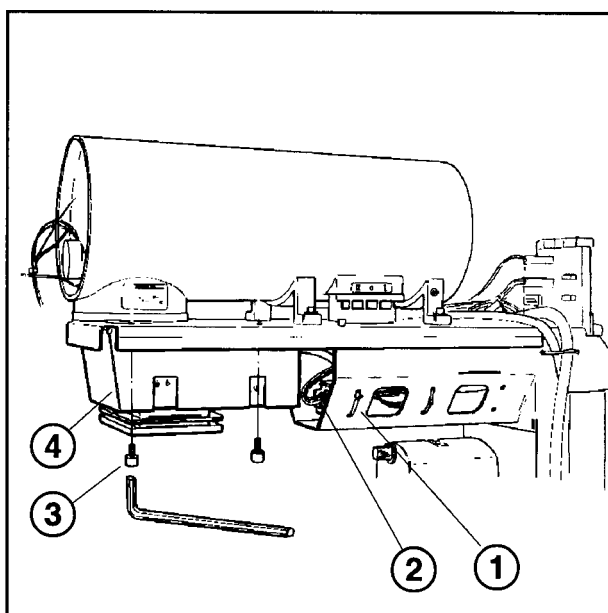

Fig. 4
- Cut cable tie (1/Fig. 4) and disconnect plug X894 (2/Fig. 4).
- Loosen the four screws (3/Fig. 4) and remove the collimator unit (4/Fig. 4).